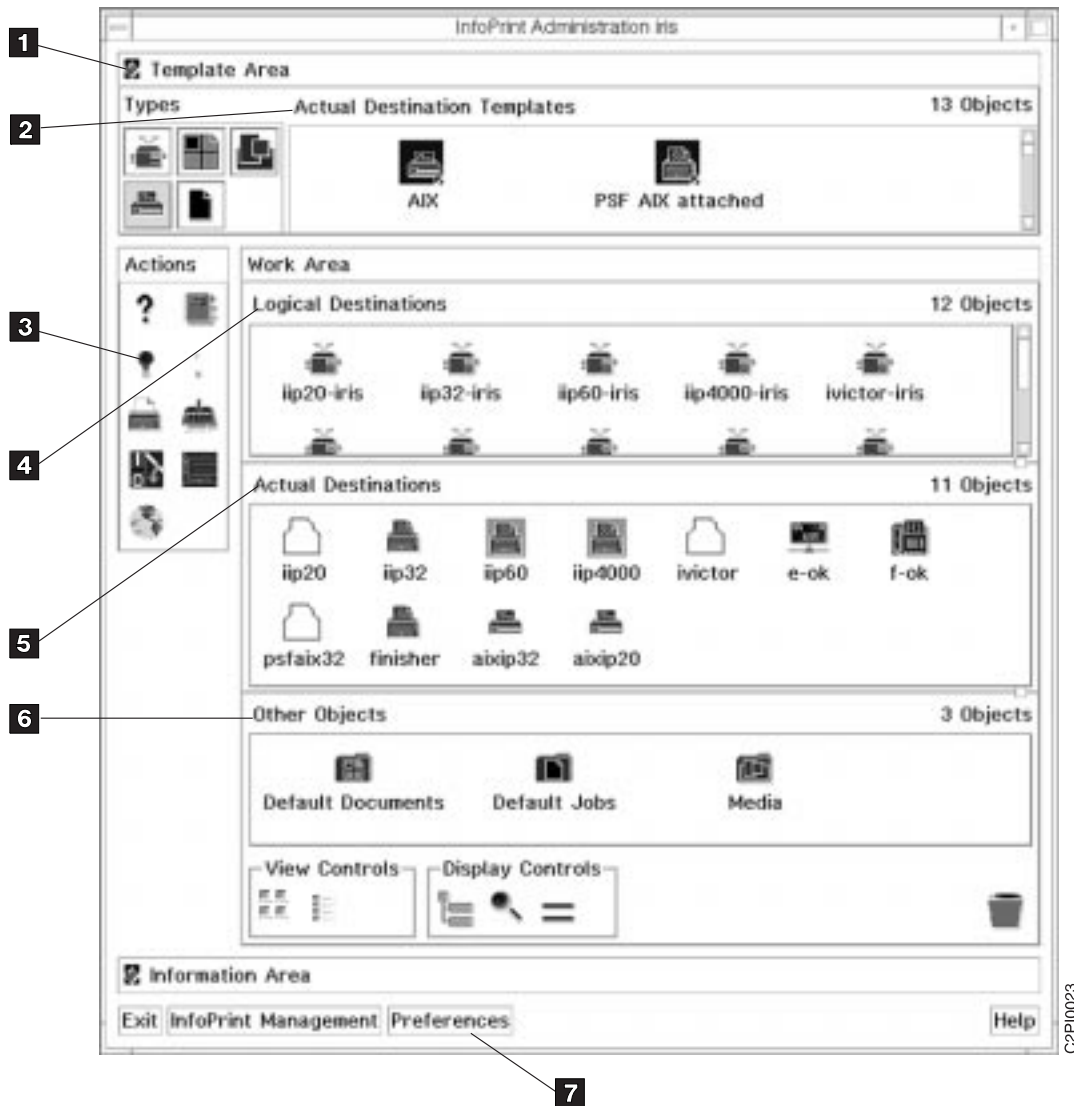

Figure 14. InfoPrint Administration Window
2. From the pop-up menu, select **Print Administration**. After a period of time you see the InfoPrint Administration window (Figure 14 on page 14).